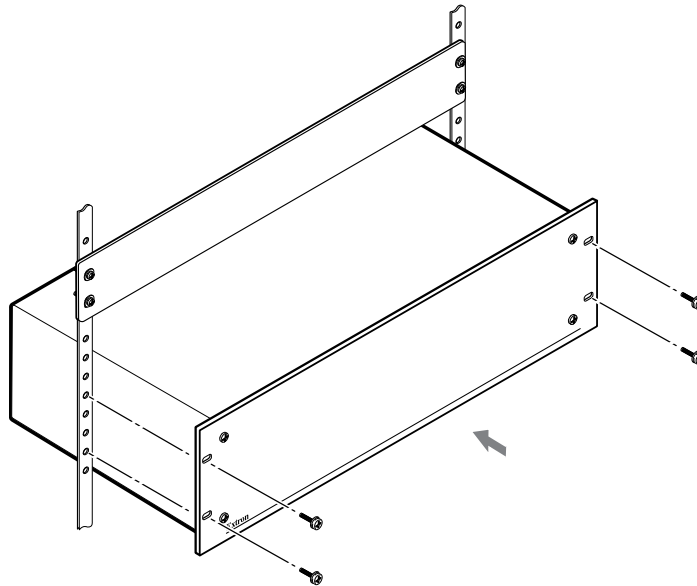

Figure 111. Installing the Switcher in a Rack
1. Insert the unit into the rack, aligning the mounting bracket holes with those in the rack (see figure 111).